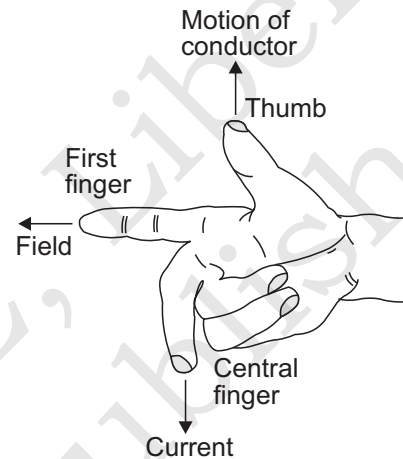

Fig. 3.16. Fleming's right hand rule.
**Stretch the thumb and the first two fingers of your right hand in mutually perpendicular directions. If the first finger points in the direction of the magnetic field, the thumb in the direction of motion of the conductor, then the central finger points in the direction of the induced emf or induced current in the conductor [Fig. 3.16].**
It is possible to explain the motional emf in terms of the Lorentz force acting on the free charge carriers of conductor PQ (Fig. 3.16). Consider any arbitrary charge  $q$  in the conductor PQ. When the rod moves with speed  $v$ , the charge will also be moving with speed  $v$  in the magnetic field  $\vec{B}$ . The Lorentz force on this charge is  $qvB$  in magnitude, and its direction is towards Q. All charges experience the same force, in magnitude and direction, irrespective of their position in the rod PQ. The work done in moving the charge from P to Q is,